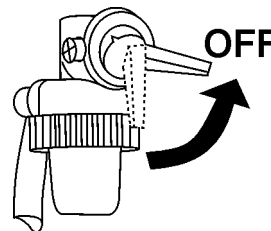

Figure 18. Engine Fuel Valve Lever (OFF Position)
4. Place the engine **fuel valve lever** (Figure 18) to the **"OFF"** position."